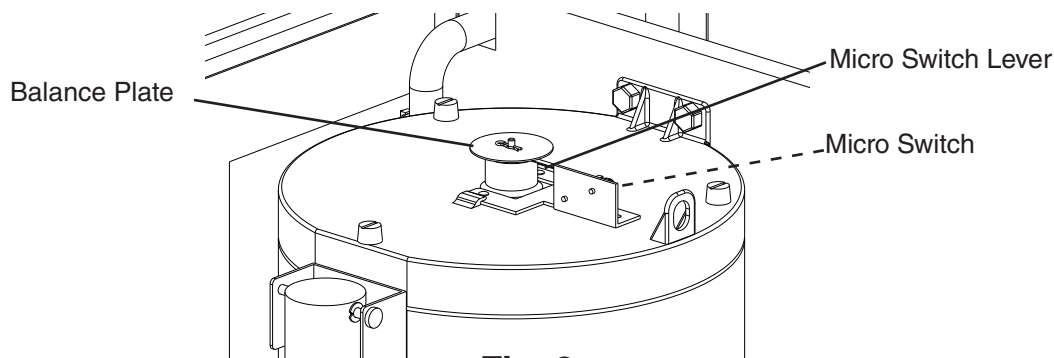

Fig. 8
- 14) Lift the balance plate located on the bin top until the micro switch lever lifts and micro switch opens. See Fig. 8. 90-second compressor shutdown timer starts. Once the 90-second compressor shutdown timer terminates, compressor de-energizes and the 60-second gear motor shutdown timer starts. Once the 60-second gear motor shutdown timer terminates, gear motor de-energizes. Release the balance plate back to its correct position.